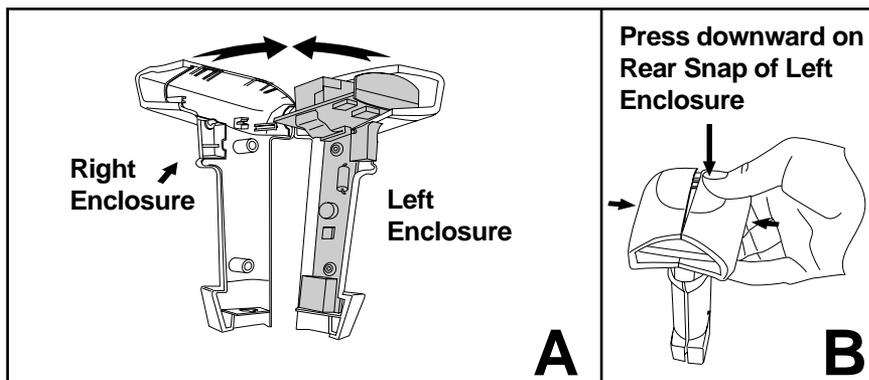

Figure 13. Aligning and Snapping the Enclosures
1. Carefully seat all internal components in the Left Enclosure as shown in Figure 13 A.
4. Continue pushing the enclosures together while pressing downward on the rear snap of the Left Enclosure as shown in Figure 13 B. You will hear an audible “snap” when the assembly is fully seated.